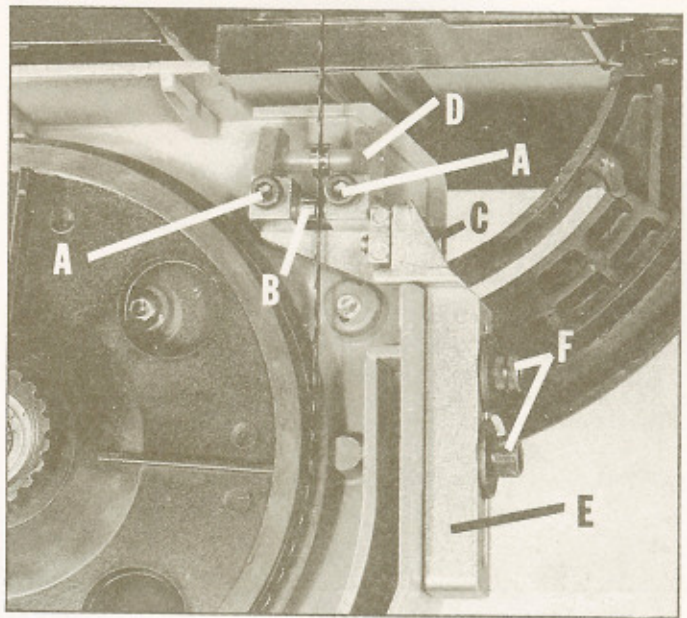

Fig. 14
1. Loosen two screws (A) Fig. 14, and adjust the blade guides (B) as close as possible to the sides of the saw blade being careful not to pinch the blade. Then tighten the two screws (A).
2. Loosen screw (C) Fig. 14, and move the guide bracket (D) in or out until the front edge of the guides (B) are just behind blade "gullets"
3. The lower blade guide bracket (E) Fig. 14, should always be adjusted as close as possible to the table to properly support blade. Loosen two screws (F) move bracket (E) and tighten screws (F).